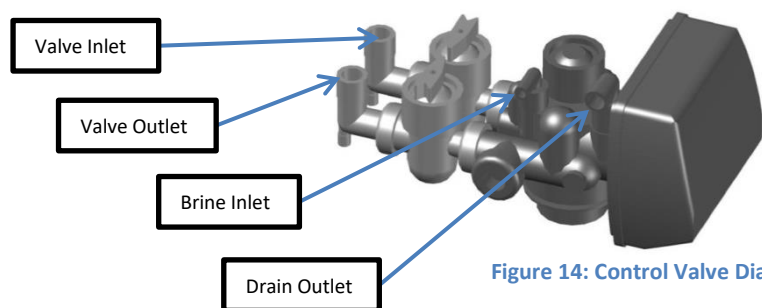

Figure 14: Control Valve Diagram
- C. A red latch with a Polytube insert attached is placed under the brine inlet of each valve. Place this insert in the brine line before connecting it to the brine inlet. (Figure 14)
- A. Pipe or tube a line from the Control Valve Drain (Figure 14) to the drain. Refer to section 9 for the proper sized drain line.